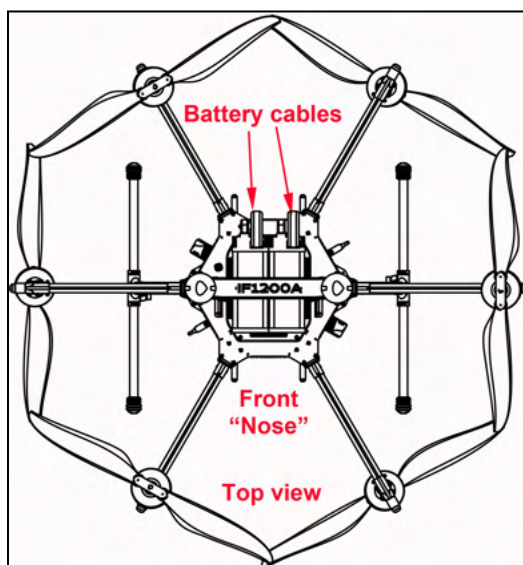
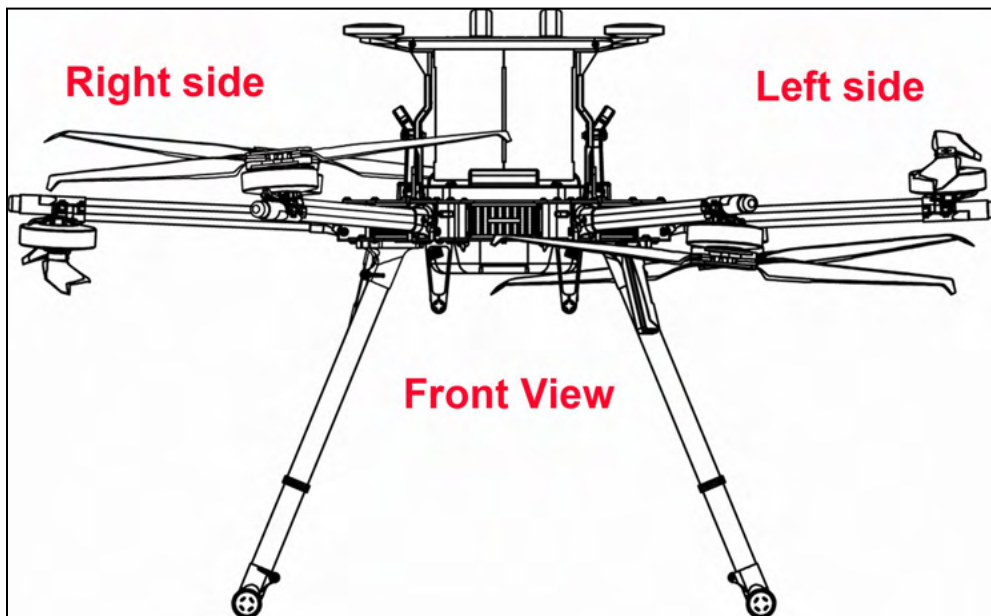

Figure 31. IF1200A Top View Orientation (Nose Down)
Figure 32. IF1200A Front View (Level) Orientation
Figure 31 and Figure 32 on the following page show two views of the IF1200A, with names of the parts of the vehicle used in the compass and accelerometer calibration procedures.
- **Overall Orientation (and Nose Down):** See Figure 31. If you imagine the ground being at the bottom of this graphic, this is the “Nose Down” orientation of the aircraft during calibration.
- **Front View (and Level):** See Figure 32. This graphic shows the front view, and shows the right and left sides of the aircraft. If you imagine the ground being at the bottom of this graphic, this is the be the “Level” orientation of the aircraft